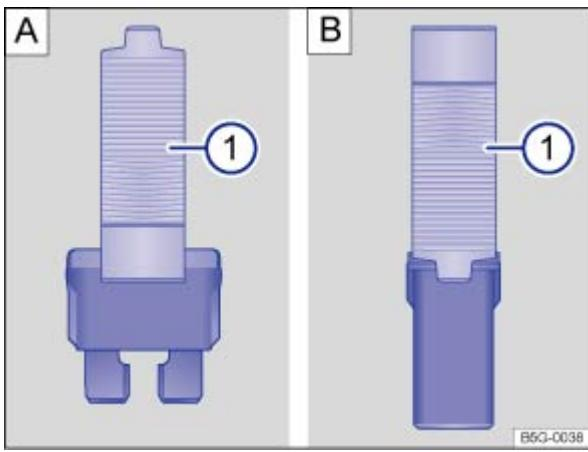

Fig. 172 Removing or installing a blade fuse with the plastic tweezers: : Blade fuse. : JCASE® fuse.
- Depending on the type of fuse, slide the tweezers ⇒ Fig. 172 A ① or ⇒ Fig. 172 B ① onto the fuse from the side.